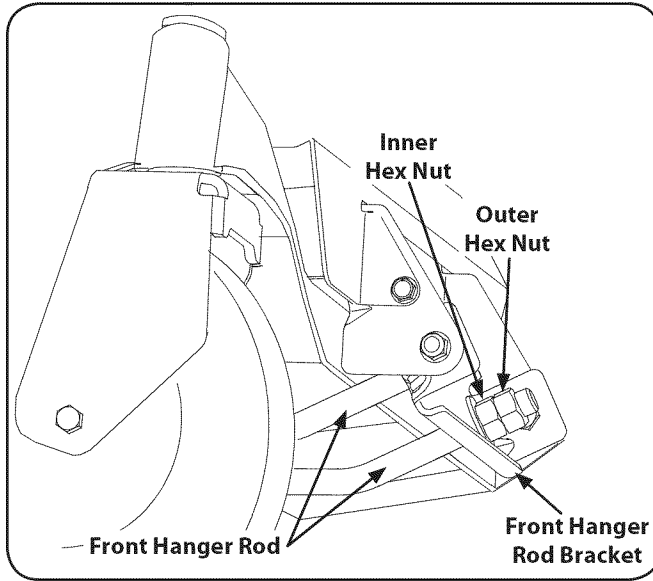

Figure 6-6
- From the front of the tractor, loosen the outer hex nuts on the deck front hanger rod and turn them away from the inner nuts. Refer to Fig. 6-6.
- If the front of the deck was too low, turn the inner hex nuts clockwise against the hanger bracket to shorten the front hanger rod and raise the front of the deck. Refer to Fig. 6-6.